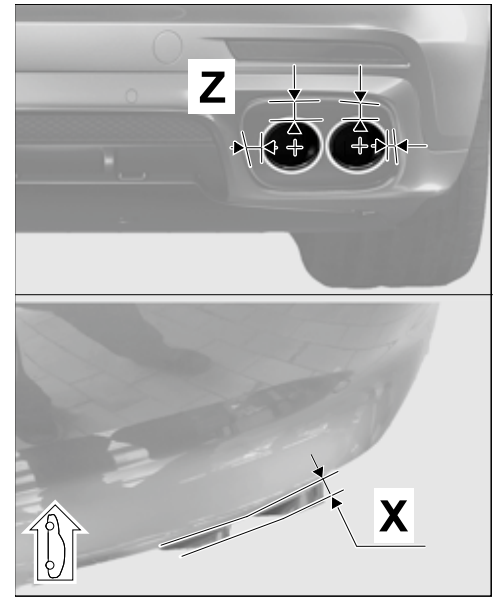

Figure 28
- 3.6.2 Check that the gap = "dimension Z" between the new sports tailpipes and exhaust system cover (rear apron – left and right side of vehicle ⇒ *Figure 28-Z-*) is symmetrically constant.
- 3.6.3 Check that the sports tailpipes project equally = "dimension X" with respect to the rear apron (left and right side of vehicle ⇒ *Figure 28-X-*). Re-align sports tailpipes if necessary.